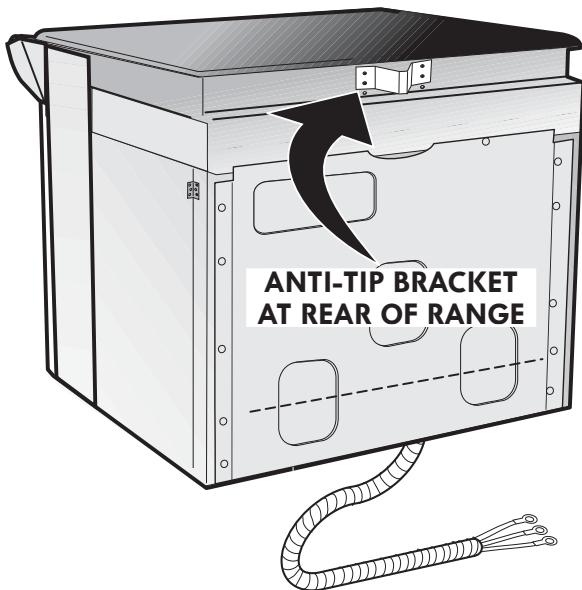

Figure 4
This appliance is manufactured with a white neutral power supply and a frame connected copper wire. The frame is grounded by connection of grounding lead to neutral lead at the termination of the conduit, if used in USA, in a new branch circuit installation (1996 NEC), mobile home, recreational vehicles, where local code do not permit grounding through the neutral (white) wire or in Canada, disconnect the white and green lead from each other and use ground lead to ground unit in accordance with local codes, connect neutral lead to branch circuit-neutral conductor in usual manner see Figure 4. If your appliance is to be connected to a 3 wire grounded junction box (US only), where local code permit connecting the appliance-grounding conductor to the neutral (white) see Figure 3.
1. The range is equipped with an anti-tip bracket attached to the back of the range with two screws. If countertop thickness is greater than 1/2" (1.3cm), relocate anti-tip bracket to the lower position 1/4" (6.4 mm) below (see figure 4).